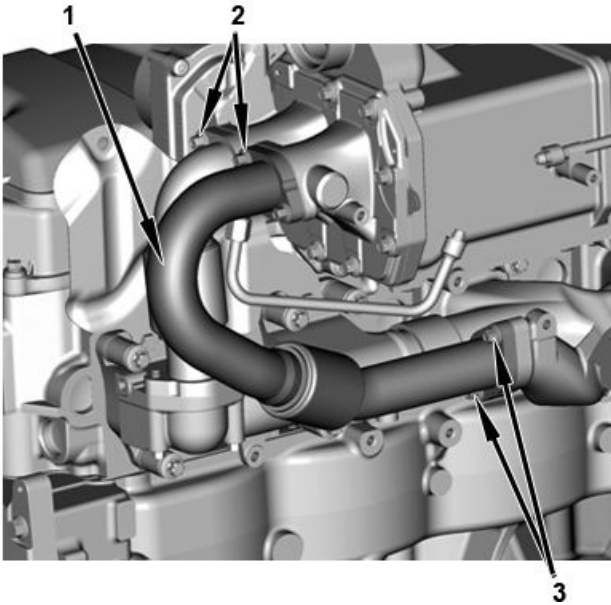

Figure 30. EGR Inlet Tube (Outside).
9. Install new EGR inlet tube (Figure 30, Item 1) if existing tube has leaks or has outdated parts number 3005416C3, 3005782C3 stamped on the wall. Install four heat-resistant bolts (Figure 30, Items 2 and 3) finger tight. Torque bolts to 18 lb-ft (24 N·m).